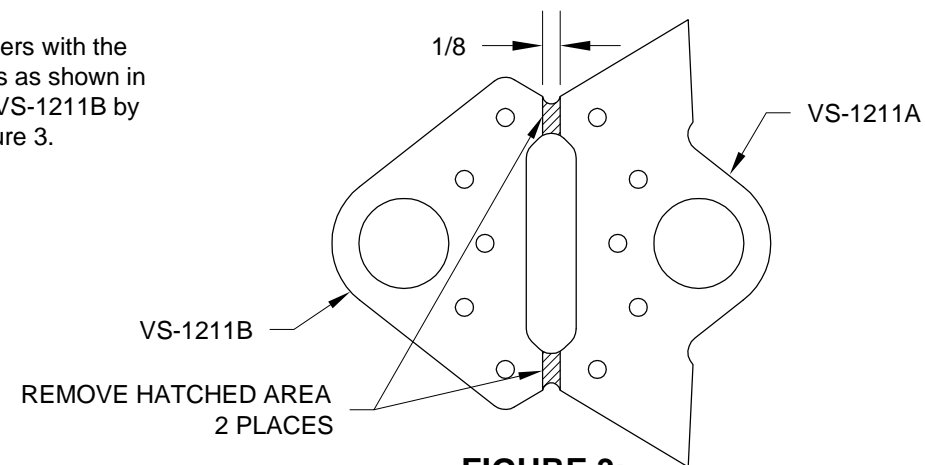

FIGURE 3:
Step 7: Mark the VS-1211 Hinge Spacers with the VS-1211A and VS-1211B part numbers as shown in Figure 3. Separate the VS-1211A and VS-1211B by removing the material called out in Figure 3.